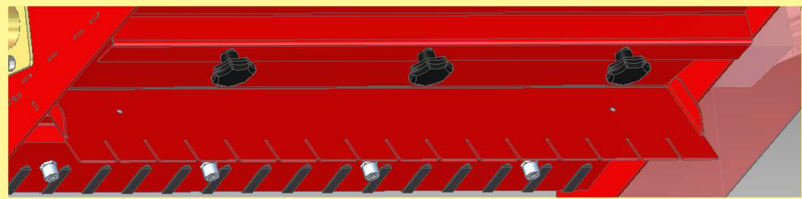

Figure 39
1. Remove the seeding shaft cover with the 3 star knob nuts, which is located underneath the fan over the partition plates (Figure 39).